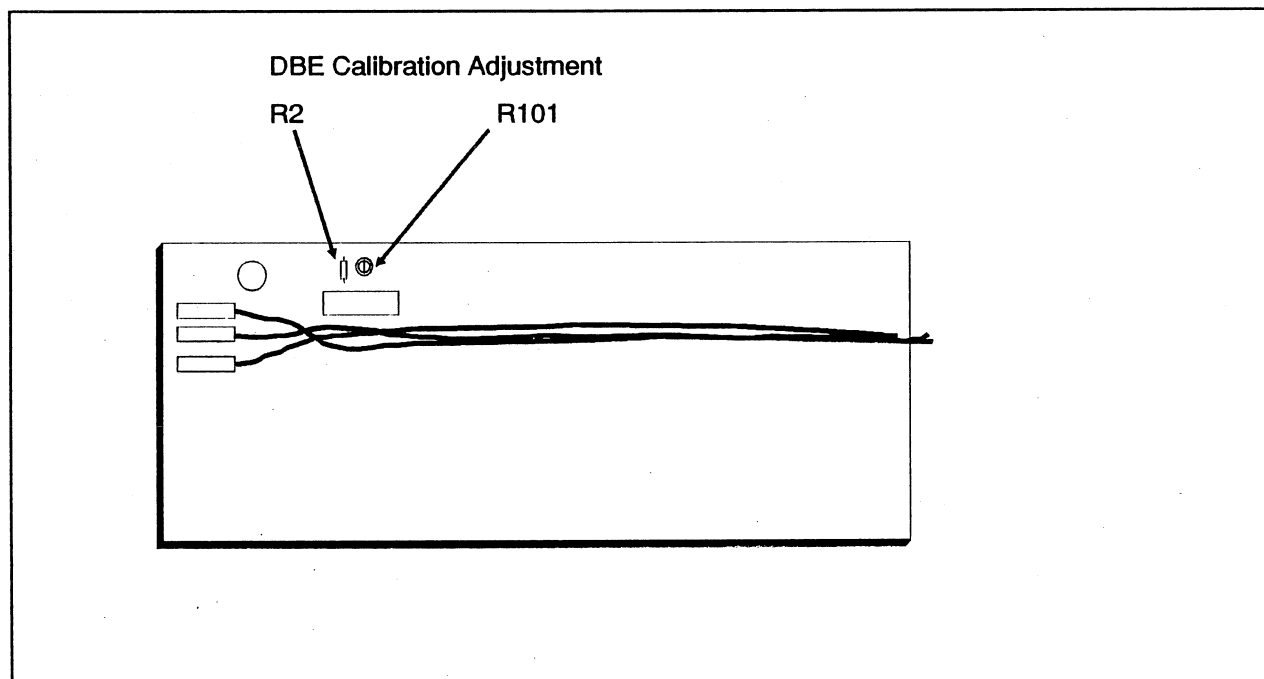

Figure 2-4. DBE Board Calibration Adjustment
- 8 Adjust R101 on the DBE Board until the voltmeter reads between 7.00 and 7.14 volts. See Figure 2-4.